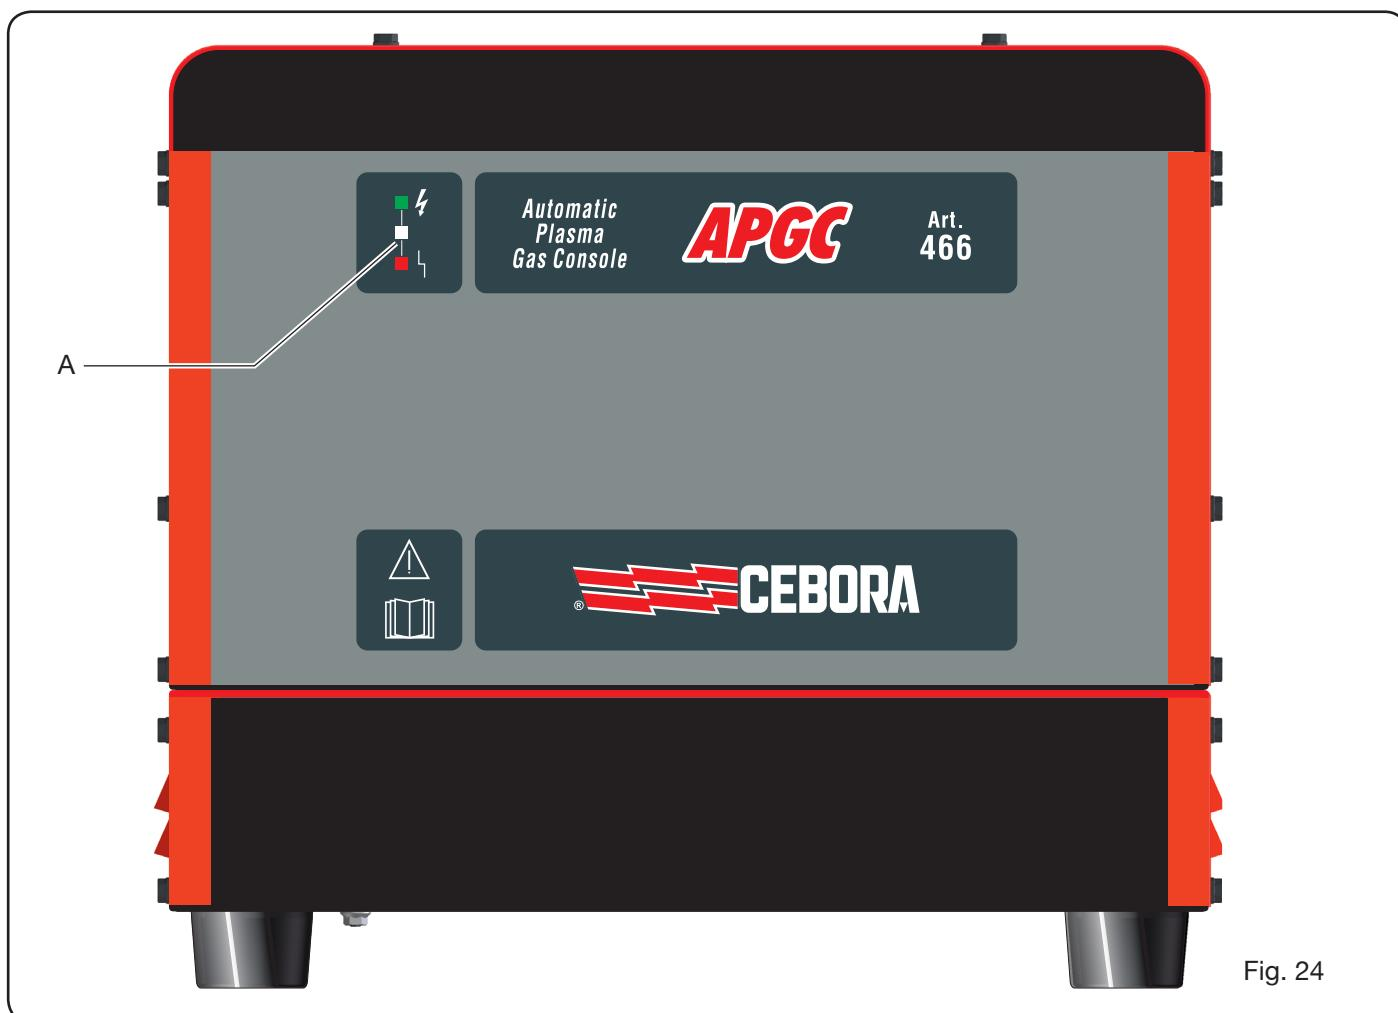

Fig. 24
4.4 DESCRIPTION OF AUTOMATIC GAS CONSOLE PANEL (FIG. 24)
Also periodically check the system earth connection. In particular, following the diagram in fig.24, make sure all leads are perfectly tight between screw and nut.